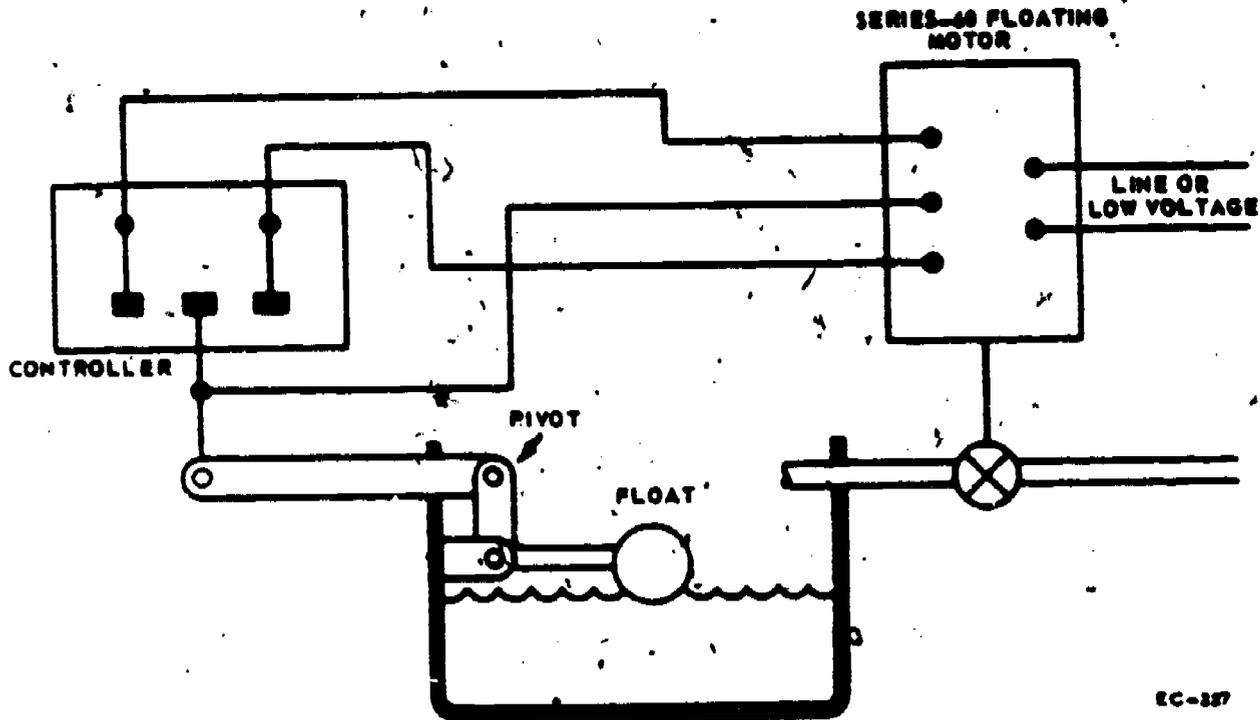

Figure 21. Tank Level Control
1. Motorized valves as used on tank level control systems, figure 21.